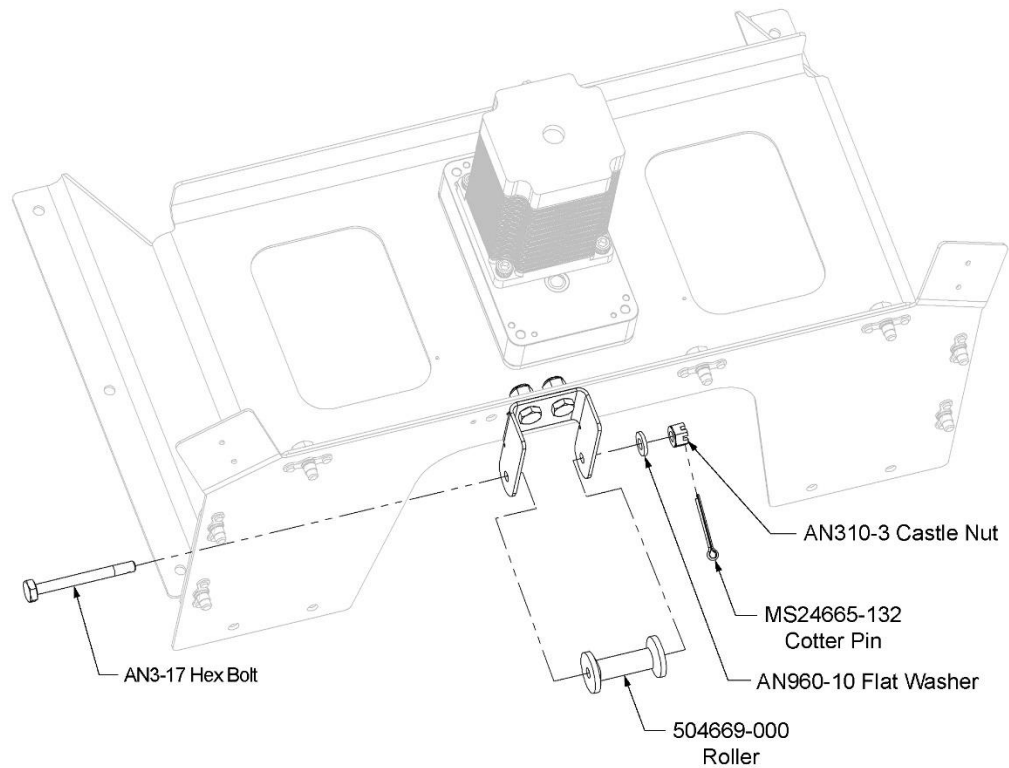

Figure 9: Installing Roller
13. Install roller, as shown in Figure 9.